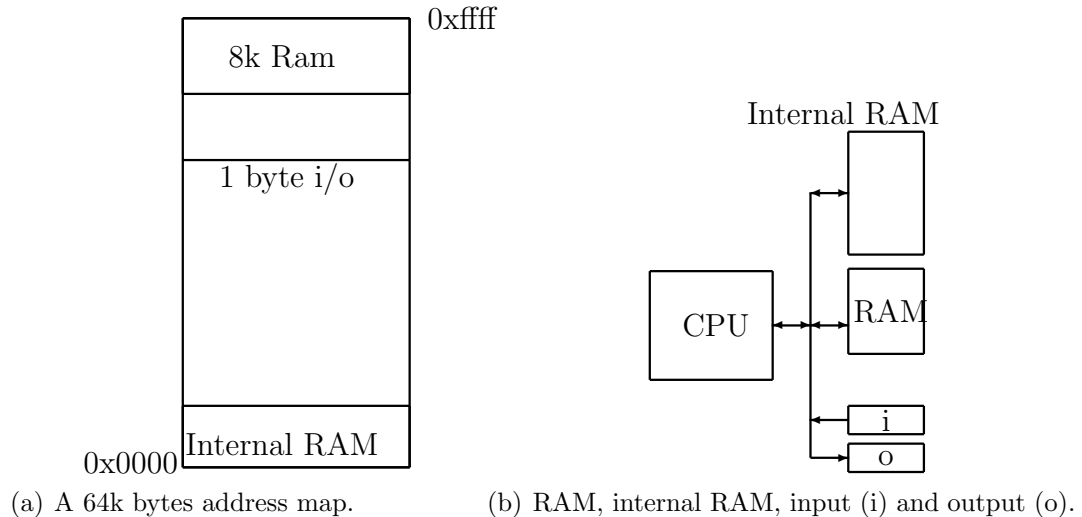

Figure 1: A simple computer system.
A computer system is often characterized by its address map. Figure 1(a) shows where different components might reside in the memory of a hypothetical computer. This simple Harvard architecture computer has 64k bytes of addressable read/write memory. The lower portion is reserved for internal RAM and special registers.
Preparation: What is the range of addresses occupied by the RAM in Figure 1? Give your answer in hexadecimal
- similar to the diagram Figure 1.